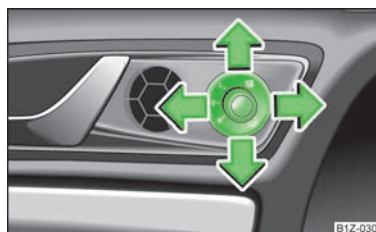

Fig. 39
- Place the rotary knob into the position **☀** » Fig. 39.
On vehicles fitted with the memory function for the driver seat, the surface of the mirror tilts down slightly when the reverse gear is engaged and the rotary knob is in the position R » Fig. 39. This provides an aid in seeing the kerb of the pavement when parking the car.